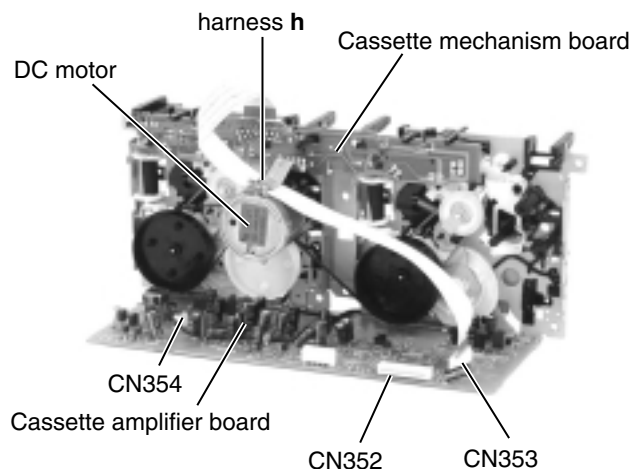

Fig.26
### ■ Removing the cassette amplifier board (See Fig.26 and 27)
**ATTENTION:** When reconnecting the card wire, put it pass through under the harness **h** on the DC motor (The Fig.26 shows the details).